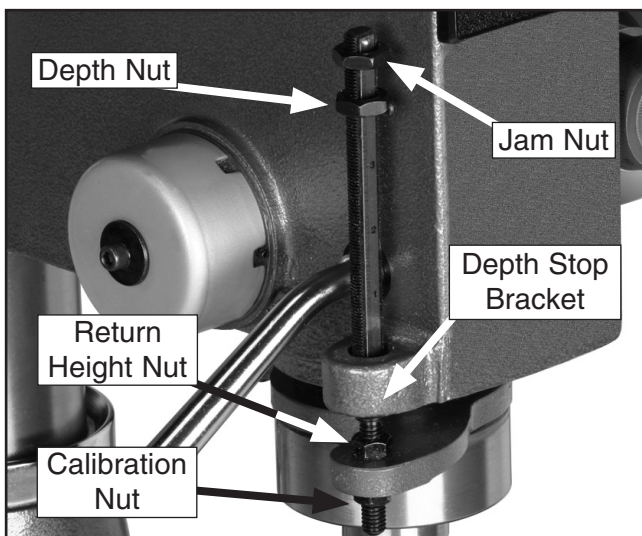

Figure 27. Depth stop assembly.
1. Loosen the calibration nut shown in **Figure 27**.